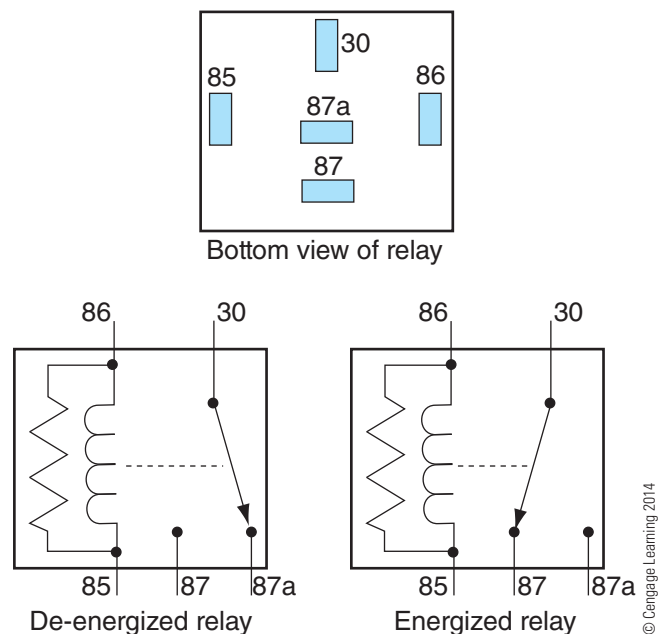

Figure 4-34 Common relay terminals and footprint.
Figure 4-34 shows the schematic symbol for a common miniature relay found on trucks. This relay is often referred to as a DIN or ISO relay. This particular relay is about the size of an ice cube and has male blade-type terminals. These relays are plugged into a mating connector, which is often incorporated with a large hard-shell connector called a fuse block or fuse terminal. The footprint or bottom view of the relay (terminal layout) is standardized as are the terminal numbering designations. The footprint design only permits one way for the relay to be plugged into the fuse block. Terminals numbered as 86 and 85 are the coil connections. Typically, terminal 86 is connected to the positive voltage supply and terminal 85 is connected to the negative voltage source (ground), but this polarity is often reversed by some OEMs for no particular reason. The resistance of the wire making up the coil on most miniature relays used in 12V systems is typically 50Ω to 100Ω. The electrical circuit that
Like switches, relay contacts use a pole and throw designation to describe the relay configuration. The relay shown in **Figure 4-34** is a single-pole double-throw (SPDT) relay. One set of contacts is normally open; the other set is normally closed. The common terminal (30) acts as a shared switch contact for both the normally open and normally closed contacts, thus the designation as “common.” The ISO designation for the normally closed relay terminal is 87A. A low-resistance electrical connection exists between the common terminal 30 and the normally closed terminal 87A when the coil is de-energized. When the relay coil is energized, the electrical connection between the common terminal and the normally closed terminal is opened, like an open switch.